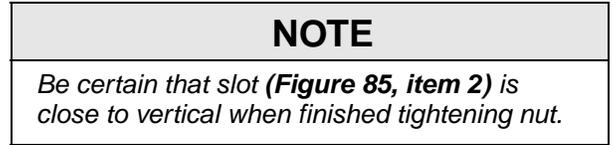

**Figure 84**
- Install clip assembly (**Figure 84, item 1**) into side rail channel (**Figure 84, item 2**). The end clips should be no greater than 12" from the end of the conveyor.
Make sure that the studs (**Figure 84, item 4**) rotate inside the channel and engage with the conveyor.
- Fasten clip (**Figure 84, item 1**) to conveyor with nut (**Figure 84, item 3**) on stud.